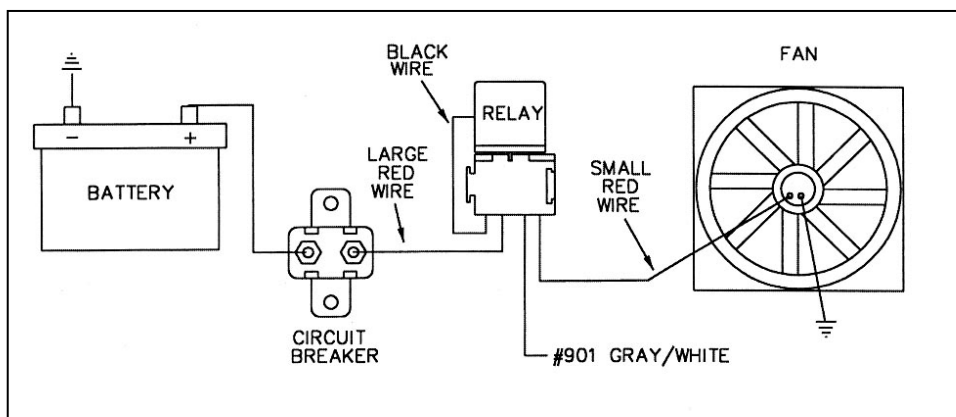
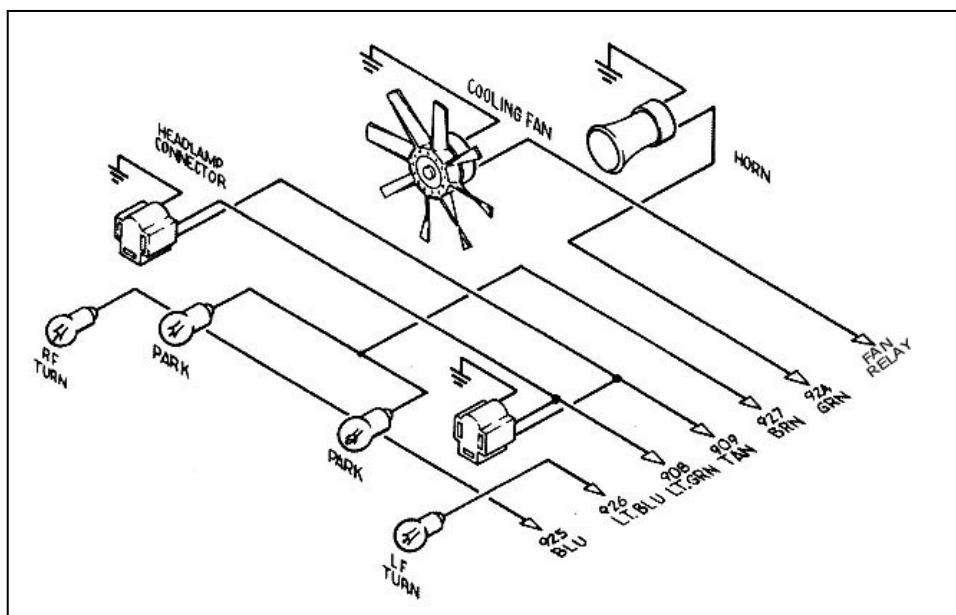

Figure 10-4A Typical Fan Relay Installation (**Painless Part #30101**)
Figure 10-4B HEADLIGHT SECTION A Wiring
10.5 HEADLIGHT SECTION A. See Figure 10-4B.
- 10.5.4** Connect HEADLIGHT SECTION A wire #901 (gry/wht) to the Electric Fan Relay. This wire is an activation wire for the relay, **NOT A POWER FEED**. The other end of wire #901 is in the ACCESSORY SECTION SWITCHES and should be connected to the electric fan switch in the dash. Connect 906 (gry/wht) from ACCESSORY SECTION B+ to the other side of the fan switch. **Figure 10-4A** shows a typical fan relay installation. **Note:** The wire going to the fan in Figure 10-4B will be coming from the fan relay output terminal. Wire #901 (gry/wht) from the ACCESSORY SECTION SWITCHES is an activation wire for the fan relay.